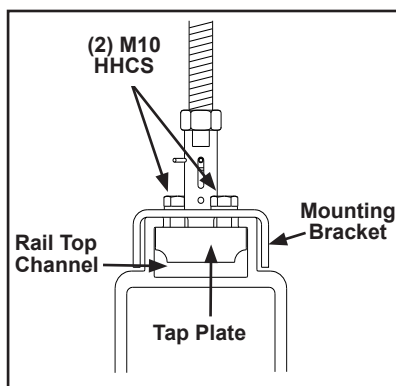
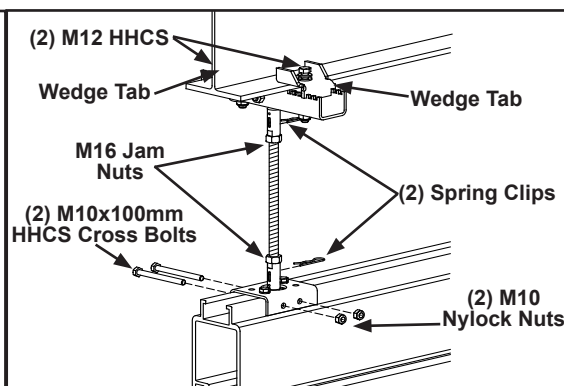

Figure 3-63
Figure 3-64
Step 1. Remove cross bolts. Slide rail mounting bracket on top of bracket channel and tap plate into bracket channel at top of runway rail. Position per system layout. See Figure 3-63 and Figure 3-64.